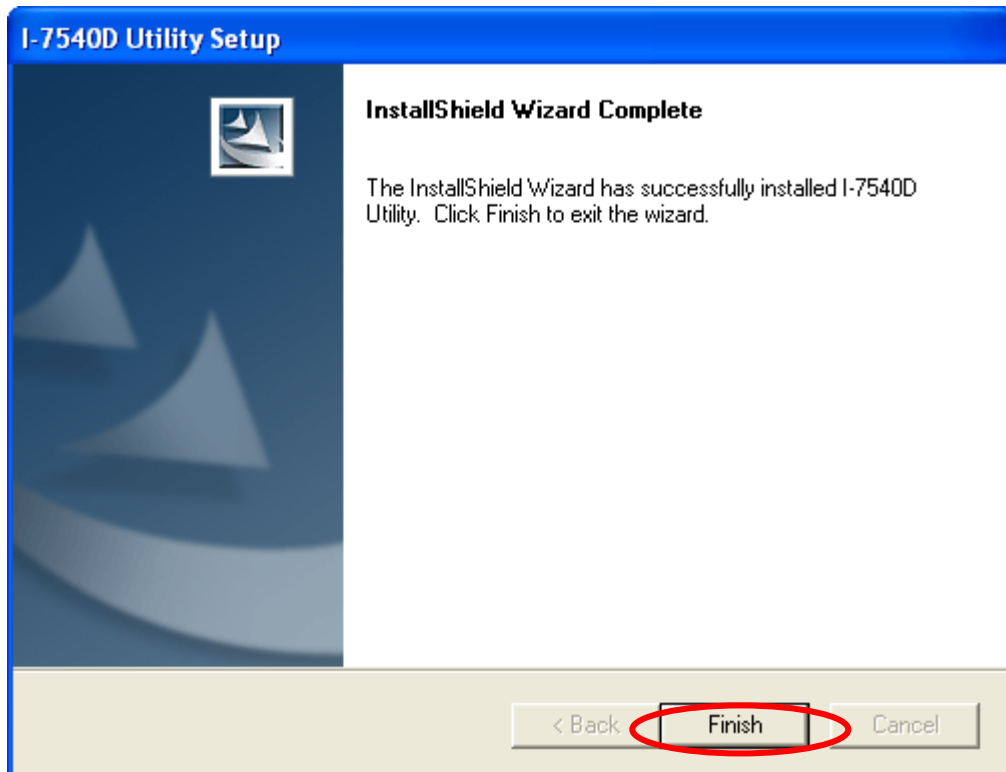

Figure 3-5: “Successful Completion of the Installation” dialog
**Step 6:** Click “Install” button and start to install the I-7540D Utility to the system. After finishing the process, a “Complete” window will pop up to prompt users that the successful completion of the installation. And click “Finish” button to exit. See figure 3-5.